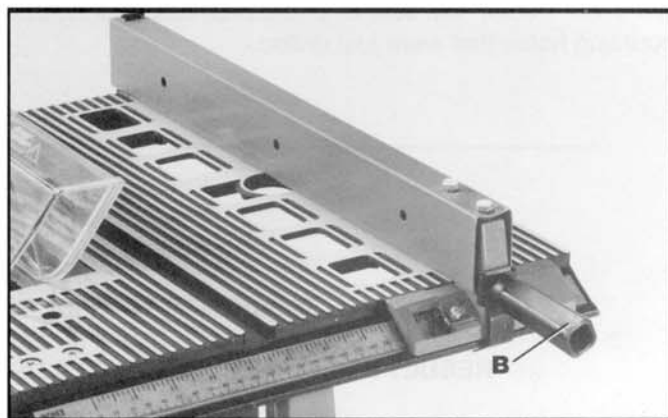

Fig. 11
3. Place the fence on the table as shown in Fig. 11. Hold the casting on front of the rip fence firmly against the front edge of the table and tighten the lock handle (B) Fig. 11 securely.